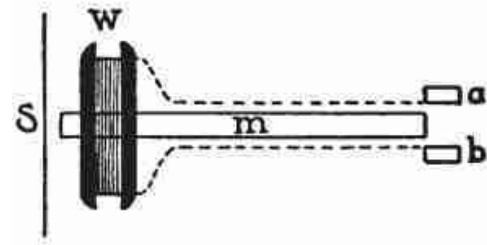

Fig. 62
23. *Telephone Receiver* (Fig. 61).—It requires a stretch neither of the imagination nor of the truth to call a telephone receiver an electro-magnet, although perhaps it has never been called that before. We took it apart and found that it consisted of a steel-bar magnet m (Fig. 62), with a small spool of wire w around